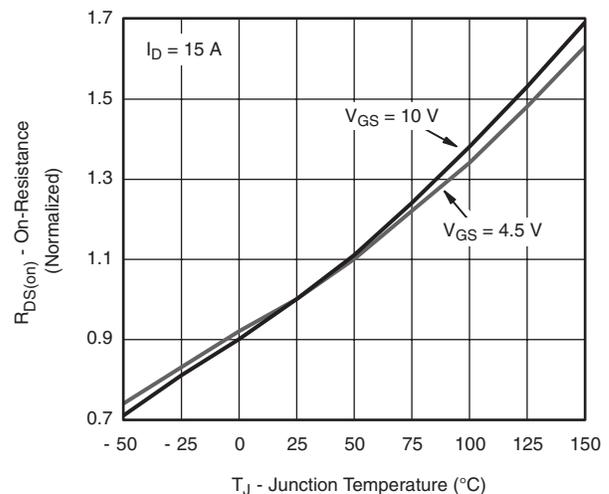

Fig. 2
- B. RK = increase in  $R_{DS(on)}$  factor with respect to temperature (normally 1.6 to 1.8) (fig. 2).